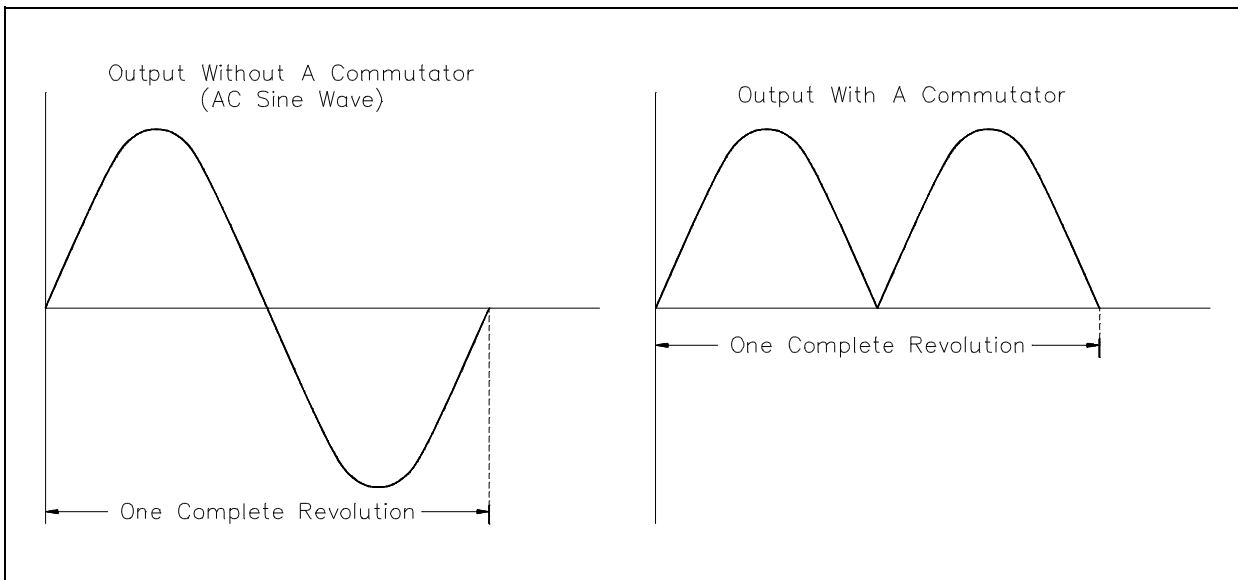

Figure 1 AC to DC Conversion with a Commutator
*Commutation* is the positioning of the DC generator brushes so that the commutator segments change brushes at the same time the armature current changes direction. More simply stated, commutation is the mechanical conversion from AC to DC at the brushes of a DC machine, as shown in Figure 1.